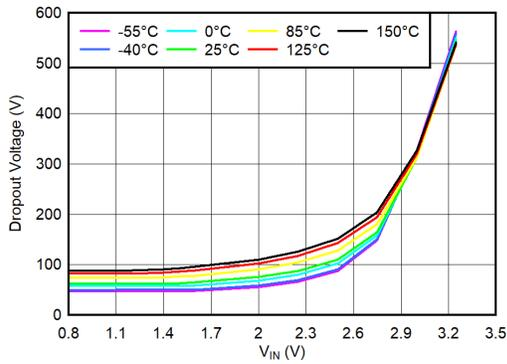

图 6-29. V_{IN} Dropout Voltage vs V_{IN} and Temperature (T_J) for $I_{OUT} = 1.5 \text{ A}$
- (1) Adjustable devices tested at 0.8 V; resistor tolerance is not taken into account.
- (2) Dropout is defined as the voltage from V_{IN} to V_{OUT} when V_{OUT} is 3% below nominal.
- (3) 3.25 V is a test condition of this device and can be adjusted by referring to Figure 6.29.